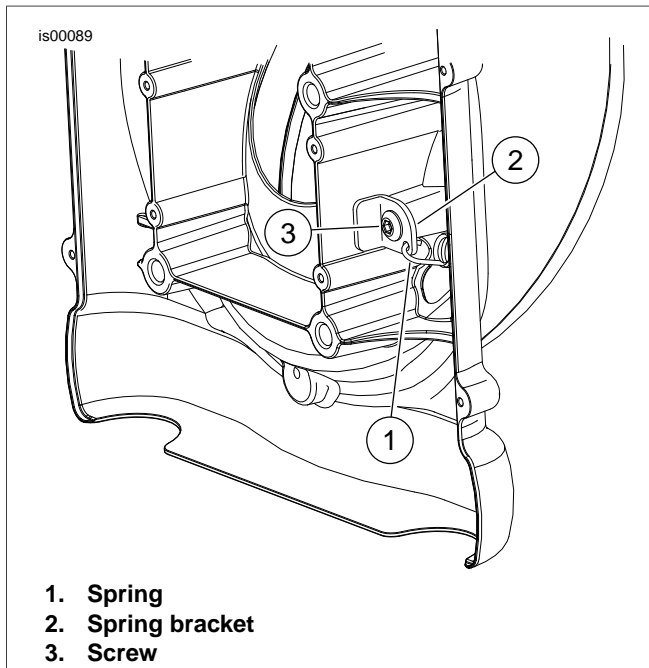

Figure 4. Spring Bracket
1. See Figure 4. Install spring bracket (2) and screw (3) to the nacelle. Tighten to 75-100 **in-lbs** (8.5-11.3 Nm)
5. See Figure 4. Connect the spring (1) to the headlamp nest and the spring bracket (2) on the back of the nacelle.